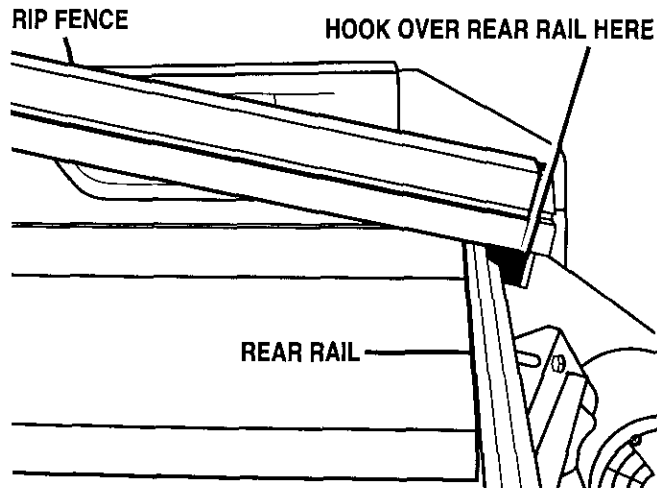

Fig. 22
See Figures 22 and 23.
- Hook the back of the rip fence over the rear rail. Lower the front of the rip fence into the groove on the front rail. See Figure 22.